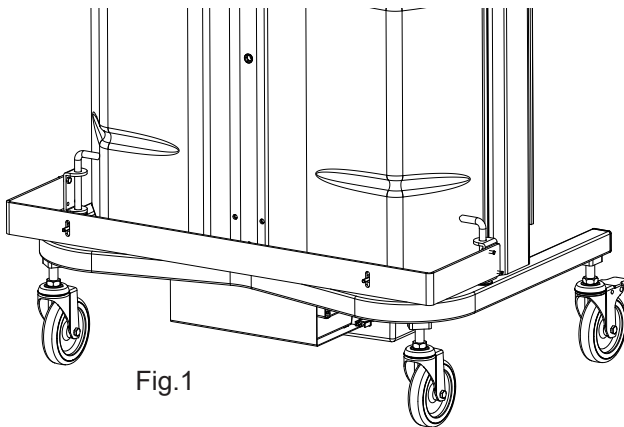

Fig.1
1. Position the mounting kit on the terminal's rubber blocks (Figure 1).